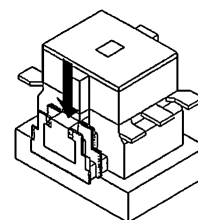

Fig.4
- 请把辅助触头单元压入到与本体的辅助触头单元相同的位置。(Fig. 4)
- Push the auxiliary contact unit to the same position as the auxiliary contact unit of the main part. (Fig. 4)